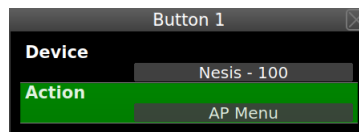

Figure 75: Joyu button 1 was assigned to Nesis with serial number 100 with the autopilot menu action.
2. Assign a device from the list and its action to the button pressed in the previous step. Figure 75 shows an example for button 1.